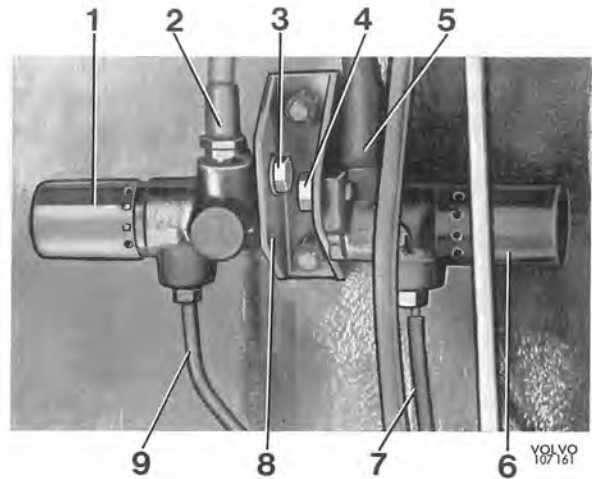

Fig. 5-57. Brake valves installed
Unscrew the brake valve and plug the brake pipe connection (10, Fig. 5-57). Slacken the brake hose (4) a max. 1/4 turn at the valve. Remove the attaching screw and unscrew the valve from the brake hose, see Fig. 5-58. Screw the new brake valve on to the brake hose with new packing, compare Fig. 5-58. Place the valve in position and check that there is no tension in the hose. Fit the attaching screws and connect up the brake pipe. Tighten the connections. Bleed the brake system.